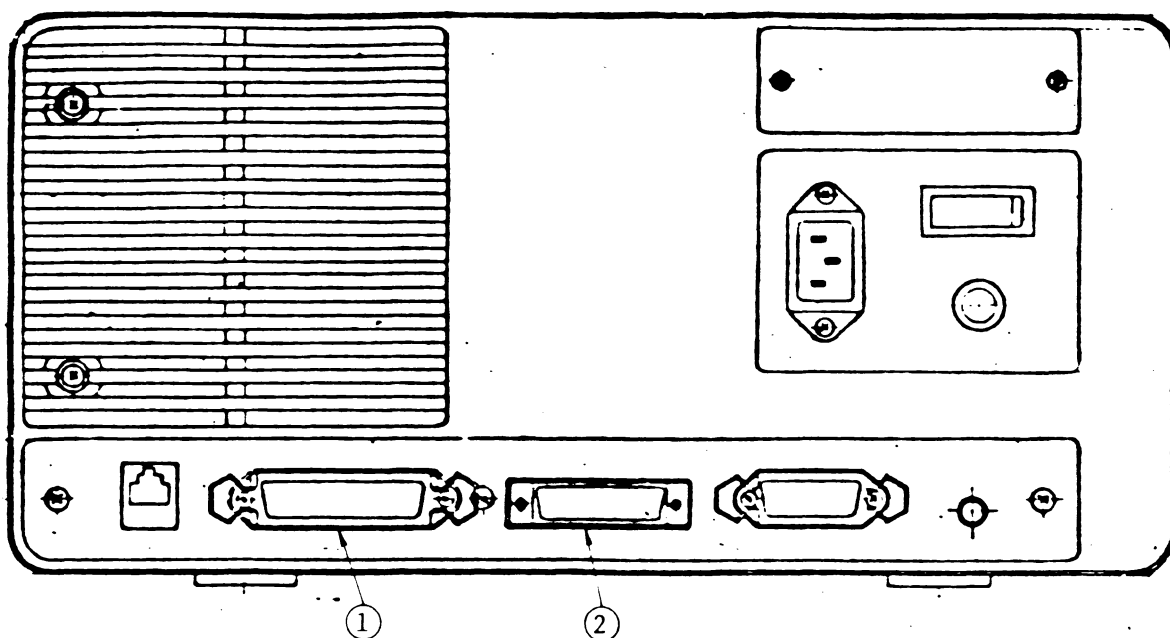

Fig. 7-1 Back View of PEOPLE Body
Prior to carrying out the tests; 1), 2), or 4), connect the two testing connectors for the printer and the RS232C terminal to parts ① and ② in Fig. 7-1 respectively.